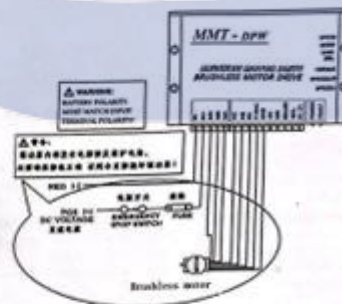

Figure 3
2. Motor connecting: see Figure 3